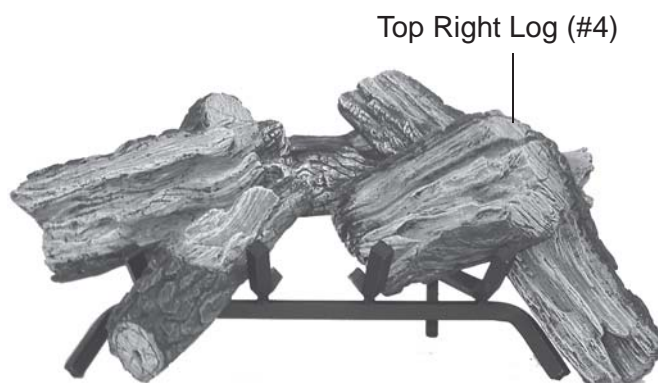

Figure 126 - Placing Top Right Log (#4)
5. Place Top Right Log #4 on Bottom Right Log #2 resting on grate. See Figure 126.